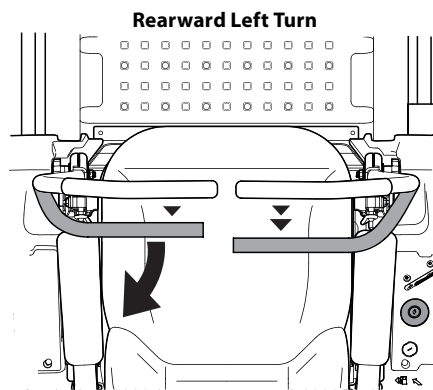

Figure 3-7
1. To turn to the left while traveling in reverse, move the left drive control lever forward of the right lever. See Figure 3-7.